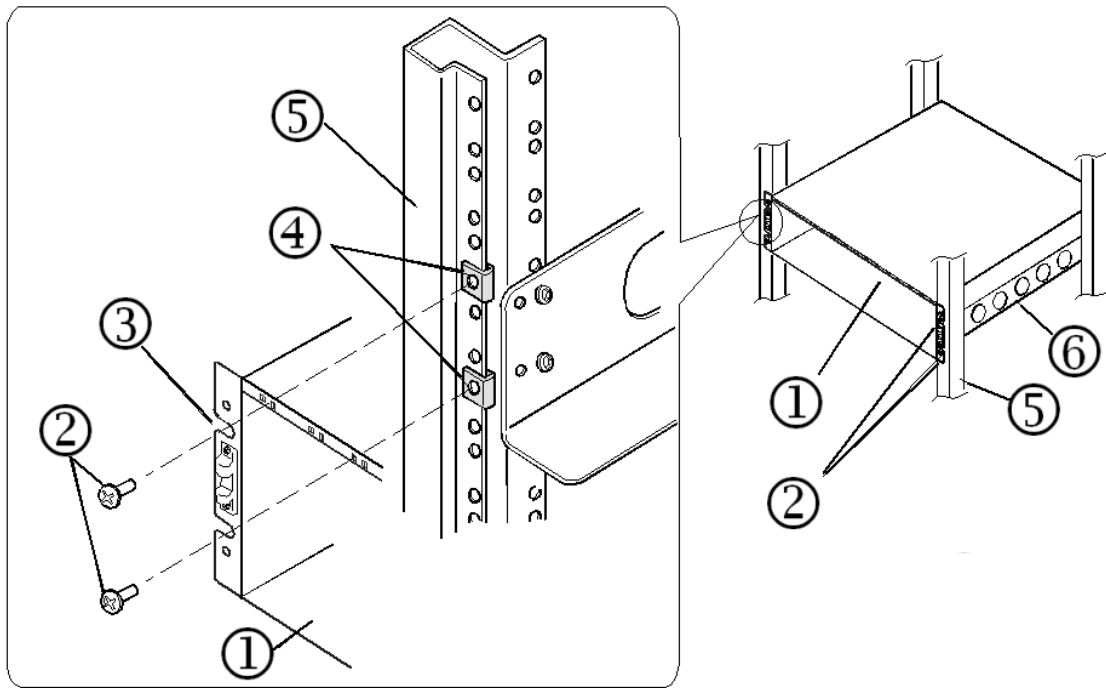

Figure 5-25: Fastening Front Side of the Array
1. As shown in Figure 5-25, fasten the array to the rack rails with four M5×10 binding screws provided with the rack.